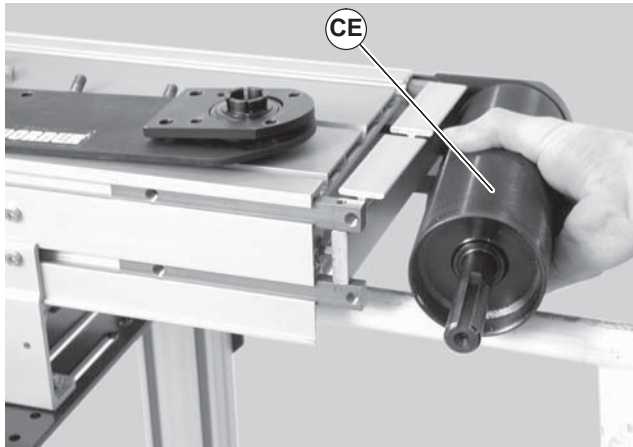

Figure 64
7. Slide the drive pulley (Figure 64, item CE) out of the headplate on the opposite side.